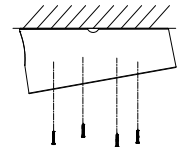

Figure 1.11 Fix the Inclined Base
- Install the inclined base to the ceiling with supplied screws, as shown in Figure 1.11.